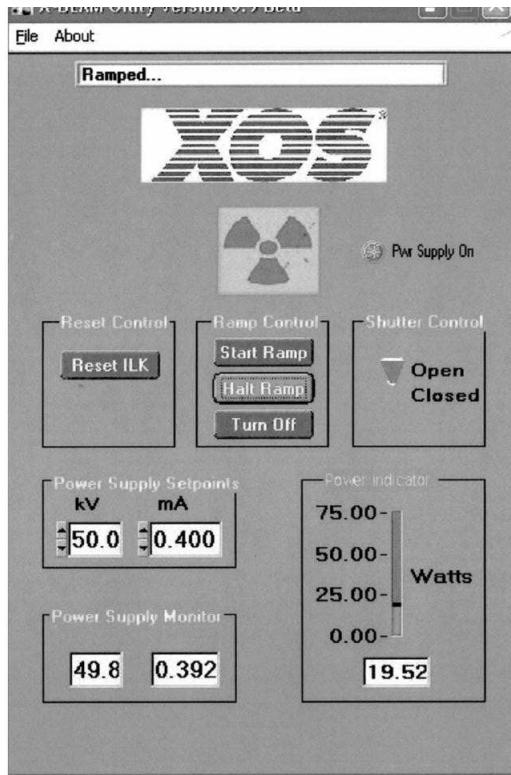

Figure 9: screenshot of XOS software control window
- Make sure the enclosure doors are closed and the indicator light on the bottom lock turns green, then access the XOS control software. A window will appear as shown in Figure 9. Set ‘voltage’ to 50, ‘current’ to 0.4, and click the ‘Start Ramp’ button.
- When taking x-ray fluorescence measurements, be sure to insert the specimen *before* the source is turned on. After the source is fully ramped, start the data acquisition for the desired preset time as per the experiment, then ramp down the source by clicking the "Turn Off" button in the XOS software window shown in Figure 9. Wait for the source to completely ramp down (voltage and current will lower to 0, the light above the enclosure will turn off, and the radiation symbol in the XOS control window will gray), then open the enclosure to remove the specimen.